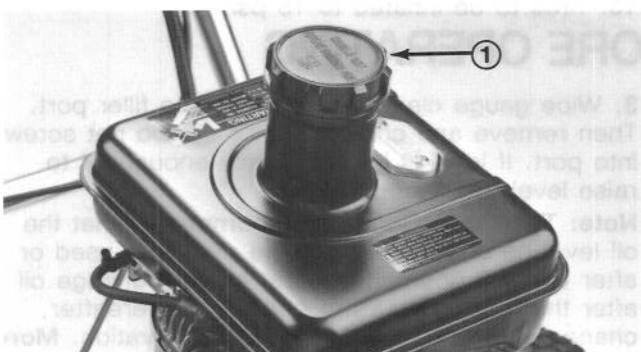

Figure 9
1. Clean around fuel tank cap and remove cap from tank (Fig. 9). Using unleaded gasoline, fill fuel tank no higher than to bottom of filter screen. DO NOT OVER FILL.